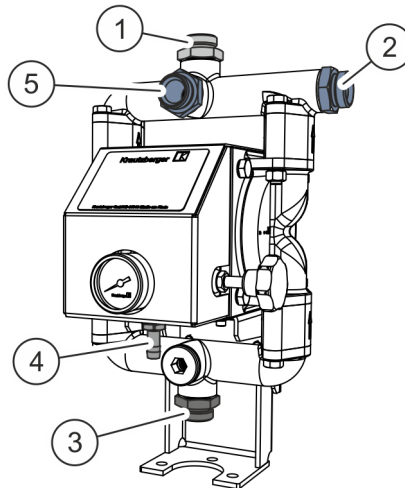

Fig. 5: Connection
1. ➔ Connect the material intake hose to the material intake connection (Fig. 5/3).
2. ➔ Connect the compressed-air supply to the compressed-air connection point (Fig. 5/4).
3. ➔ Connect the material pressure hose to the material pressure connection (material outlet) (Fig. 5/2 or 5).
4. ➔ If necessary, connect the surge tank to the connection (Fig. 5/1).